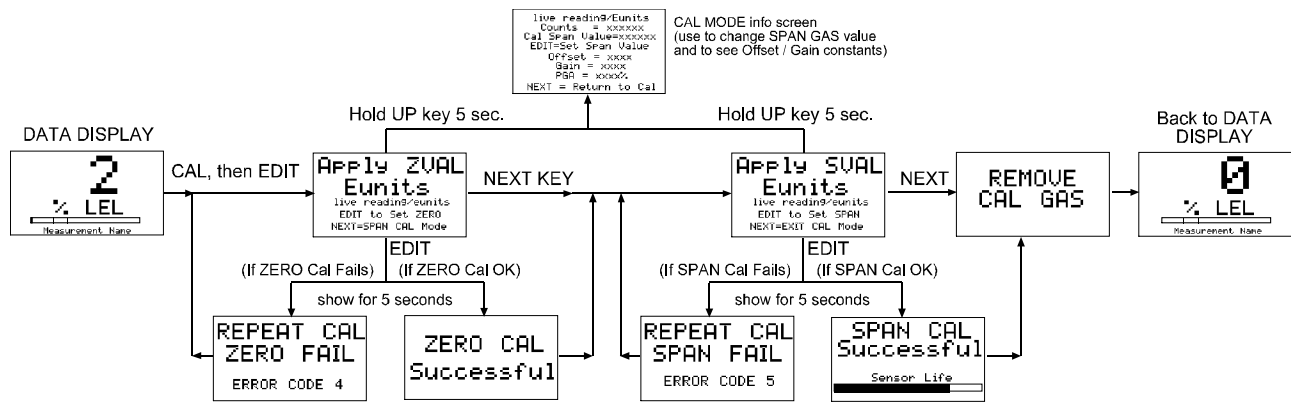

Figure 6-2: Calibration Flowchart
- Check the SPAN GAS VALUE setting and make sure it matches the calibration gas. (See Fig. 6-2)
The flow chart shown in Figure 6-2 illustrates the above procedure. UP, CAL, NEXT & EDIT labels indicate keystrokes using the magnetic wand. ZERO or SPAN calibration will fail if the readings exceed built-in limits for maximum allowable zero or minimum allowable span.
The System Config group consists of two pages of menus as shown in Figure 6-2. Each item's description follows in this section.